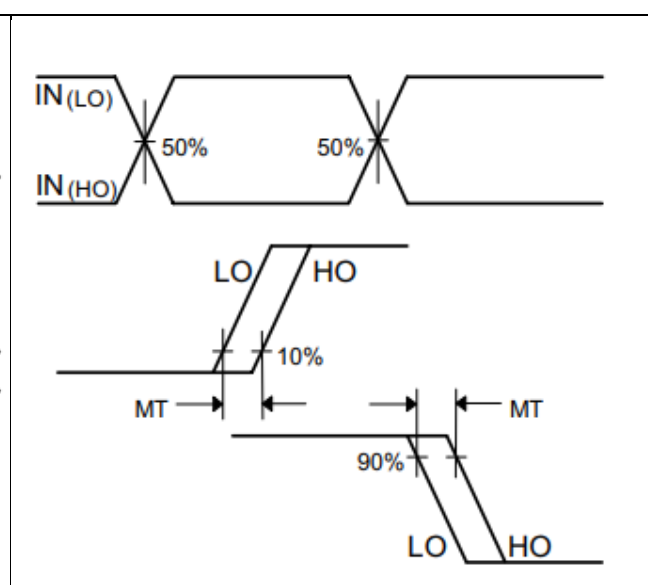

Figure 9 Delay Matching Waveform Definitions
The deadtime circuitry of 2ED2184 (4) S06F (J) is matched with respect to the high- and low-side outputs. Figure 9 defines the two deadtime parameters (i.e., DT_{LO-HO} and DT_{HO-LO}); the deadtime matching parameter (MDT) associated with the 2ED2184S06F (J) specifies the maximum difference between DT_{LO-HO} and DT_{HO-LO}.